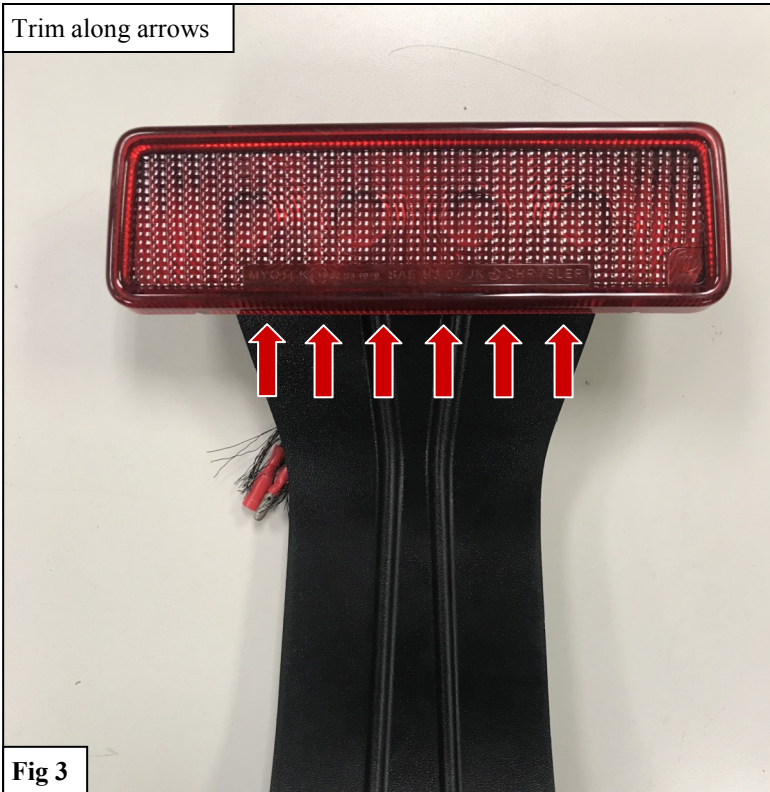

Fig 3
5. Use a small cutoff wheel to trim the OEM third brake light as indicated in **Figure 3**.